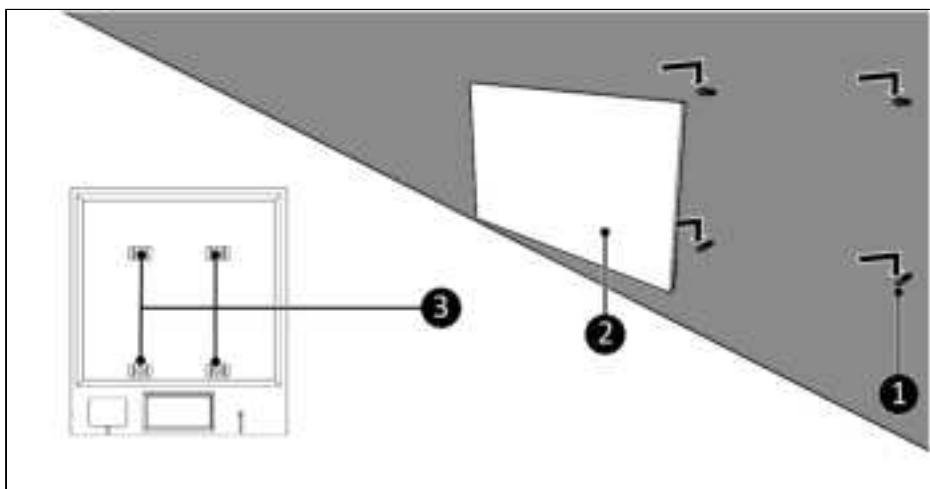

Figure 19.
7. Place the brackets (Figure 19, pos. 3) on the back of the device over the screws in the wall (Figure 19, pos. 1).